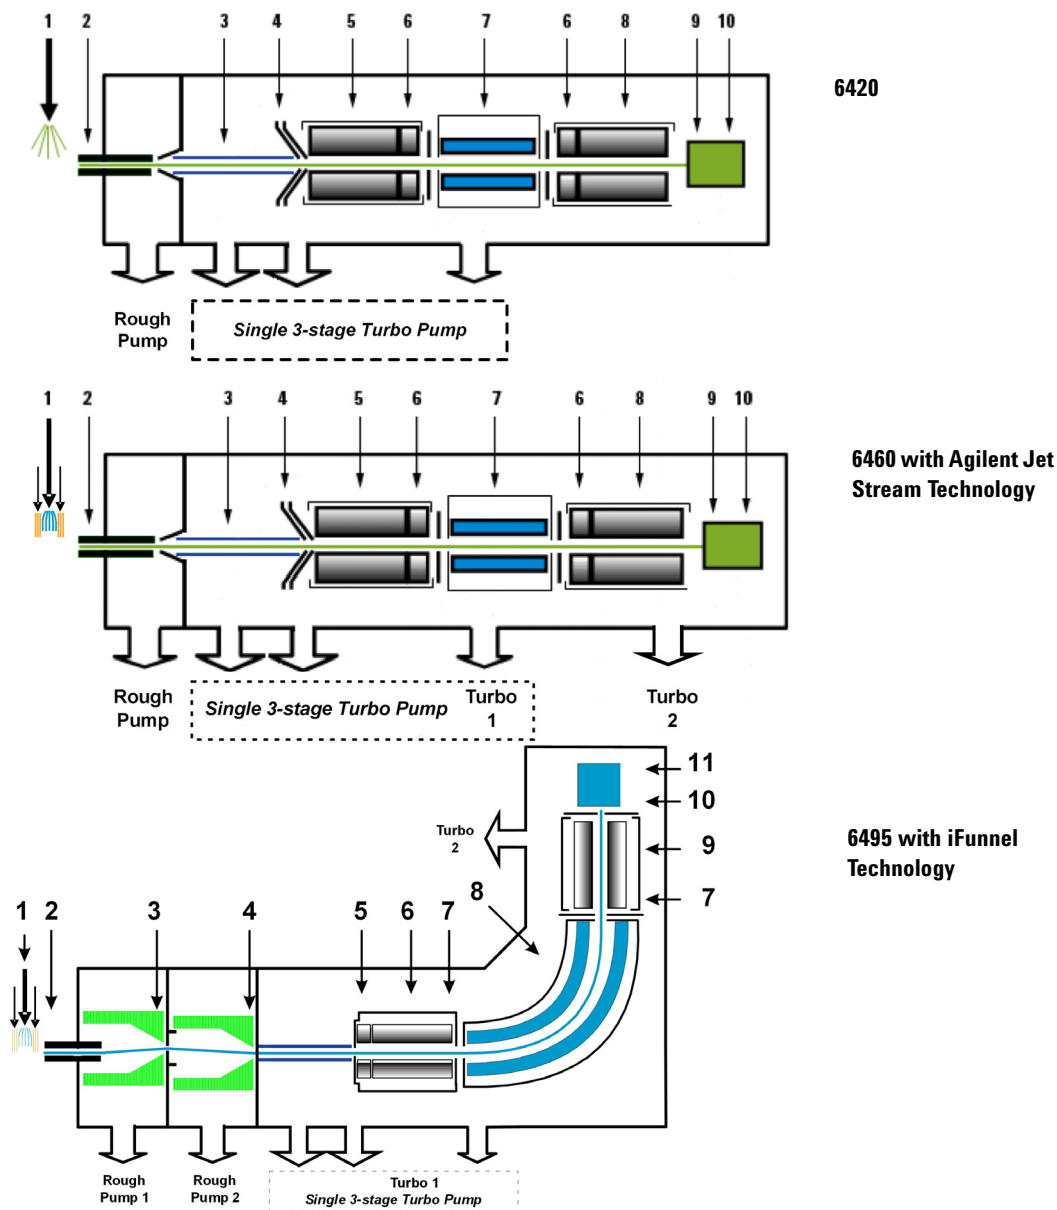

Figure 19 Multiple sources of noise
Triple quadrupole mass spectrometers exhibit multiple sources of noise, including noise from all chemical and cluster backgrounds and electronic noise (Figure 19).
The problem of noise must be addressed at several stages of the instrumentation from the ion source (1) to the detector (10) in Figure 19.
This section describes in more detail how each of the components of the 6400 Series Triple Quadrupole MS contributes to reducing noise (Figure 19).